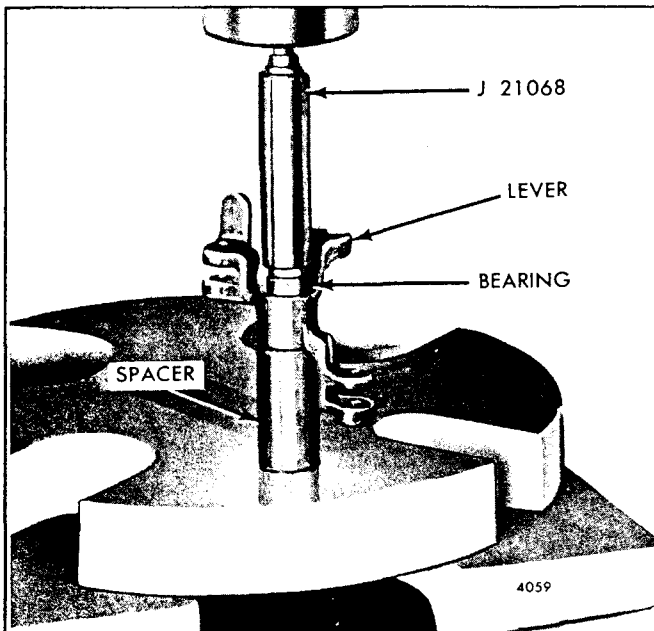

Fig. 15 - Installing Bearings in Control Link Lever
11. Support the control link lever on a steel spacer on the bed of an arbor press. Start one bearing, number side up, in the lever and press it flush with the lever with tool J 21068 (Fig. 15). Invert the lever and install the second bearing in the same manner.